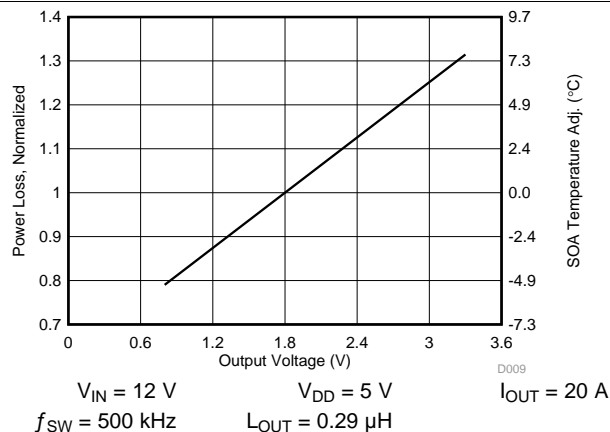

Figure 11. Normalized Power Loss vs Output Voltage
- Normalized Power Loss for output voltage ≈ 0.93 (Figure 11)
- SOA adjustment for output voltage $\approx 1.0^\circ\text{C}$ (Figure 11)